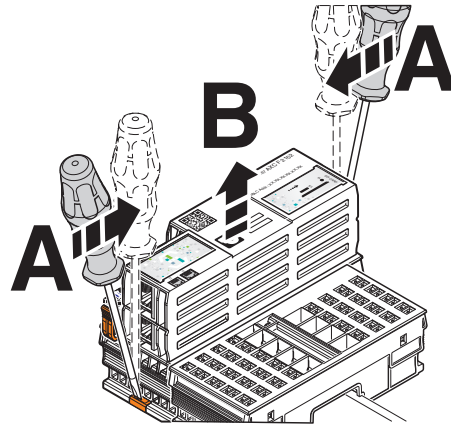

Figure 10-5 Removing the controller
- Insert a suitable tool (e.g., bladed screwdriver) into the upper and lower snap-on mechanisms (base latches) of the controller one after the other and release it (A in Figure 10-5).
- Remove the controller perpendicular to the DIN rail (B in Figure 10-5).